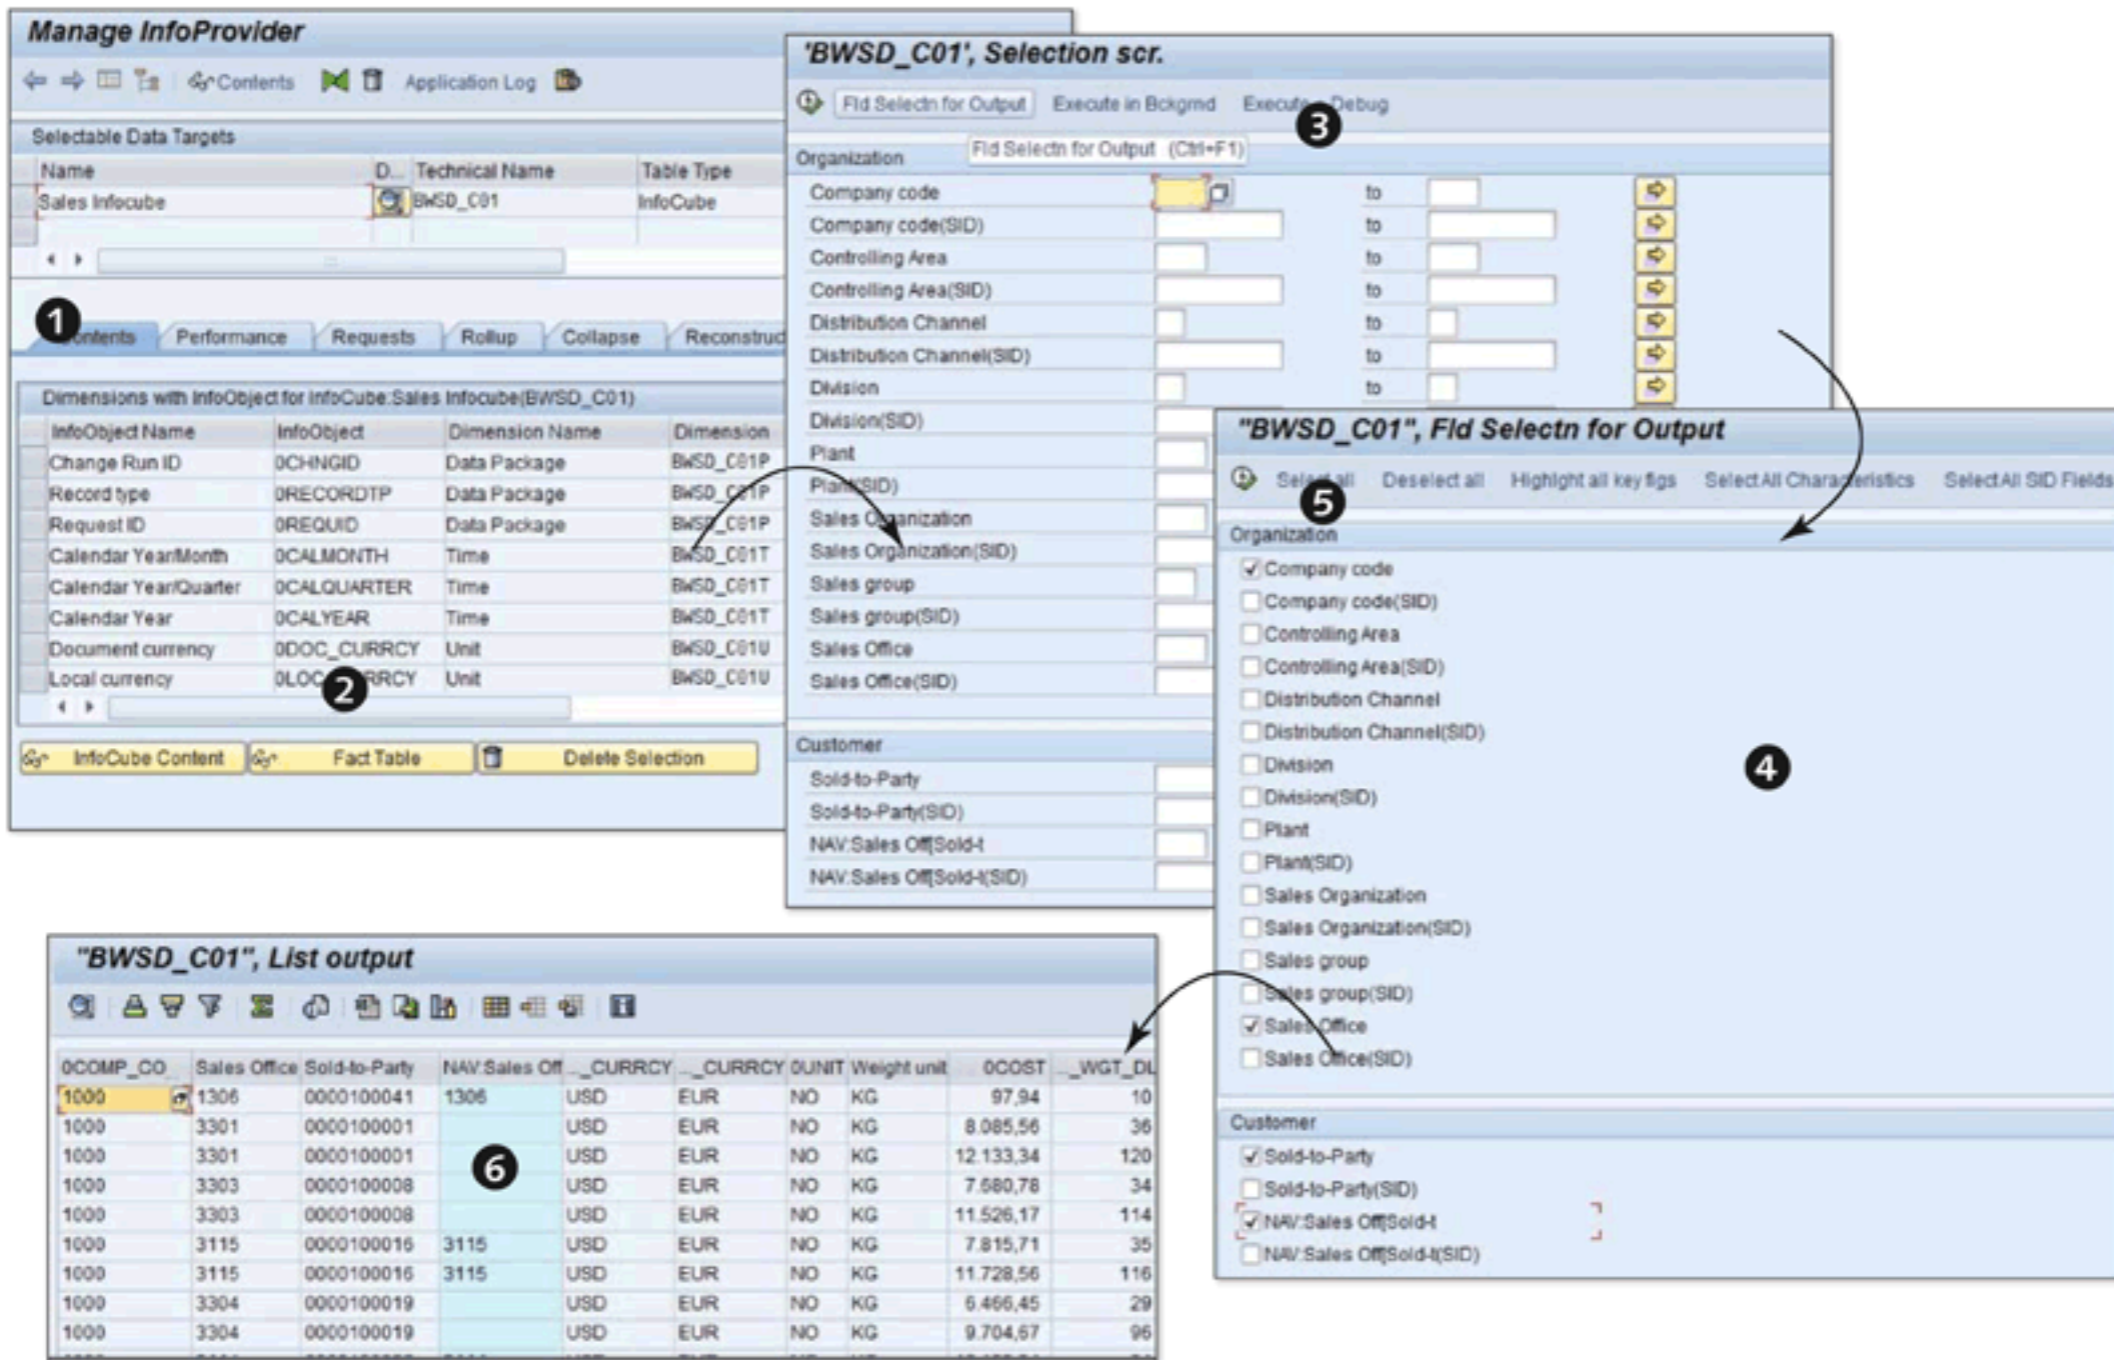

Figure 14.13 View Contents of InfoCube
The CONTENTS tab (1 of Figure 14.13) on the administration screen allows you to view the contents of the InfoProvider. This can be helpful in investigation and reconciliation of inaccurate data in reports. You can choose to see contents of the entire InfoCube or only the fact table of the InfoCube by clicking on the appropriate button (2).